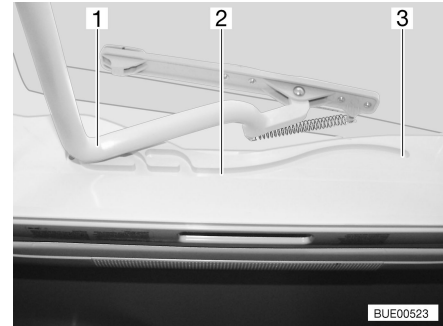

Fig. 21 Hinged skylight, guide
- Pull the bar (Fig. 21,1) in the guides (Fig. 21,2) to the rearmost position (Fig. 21,3).
- Use both hands to push the bar (Fig. 21,1) slightly upwards.
- Pull the bar in the guides (Fig. 21,2) to the desired position.